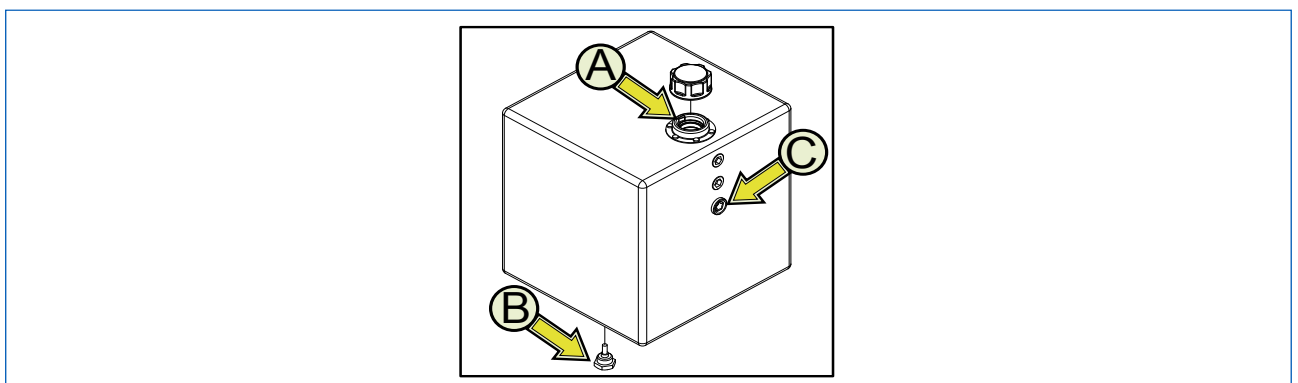

Fig. 8.2
Before use, visually check the level of the hydraulic oil by using the indicator on the tank (Fig. 8.2, C). The level should be at the centre of the indicator. If necessary, remove the filler cap and top it up. (Fig. 8.2, A).
To replace it, get a suitable, large-enough receptacle or receptacles (see Section 3.6.1) and drain the used oil by loosening the drainage cap (Fig. 8.2, 2) found under the tank. Close the drain plug and refill the tank.
- top up the hydraulic oil tank (Fig. 8.2, 3) and check the level on the special indicator (Fig. 8.2, 1).